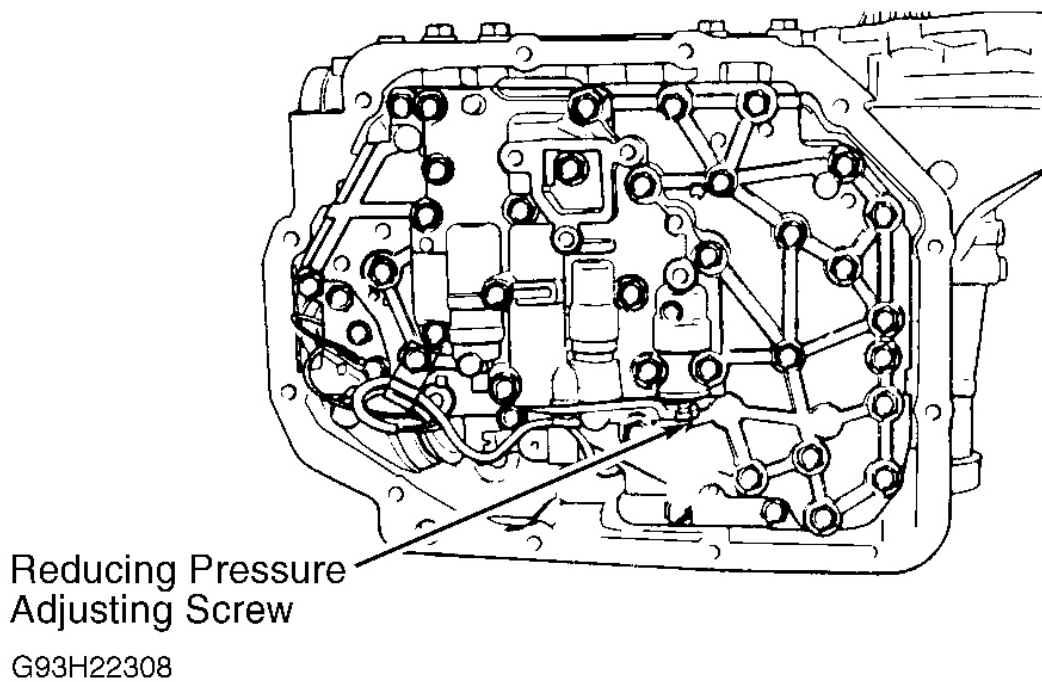

Fig. 3: Identifying Reducing Pressure Adjusting Screw
2. Rotate reducing pressure adjusting screw on valve body assembly to adjust reducing pressure. See **Fig. 3**.